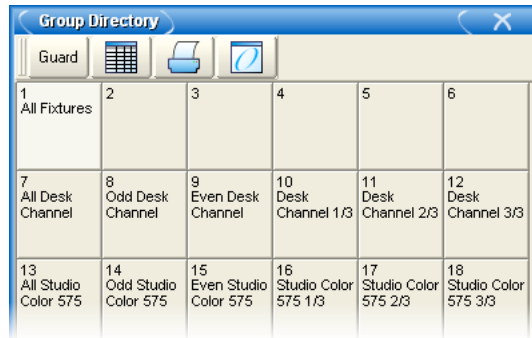

Figure 8.4. The Group Directory
Groups are shortcuts for selecting several fixtures at once. They can be recalled from the Group Directory (see *Figure 8.4, "The Group Directory"*) that you open by pressing **Open + Group**. Whilst the Autopalettes function will create groups such as All Studio Color 575, Odd Technobeam Iris and Even Studio Spot 575, it can be helpful to create show-specific ones. For the tutorial show, you should make groups for:
3. Select a location in the Group Directory window by pressing the on-screen button; see *Figure 8.4, "The Group Directory"*.